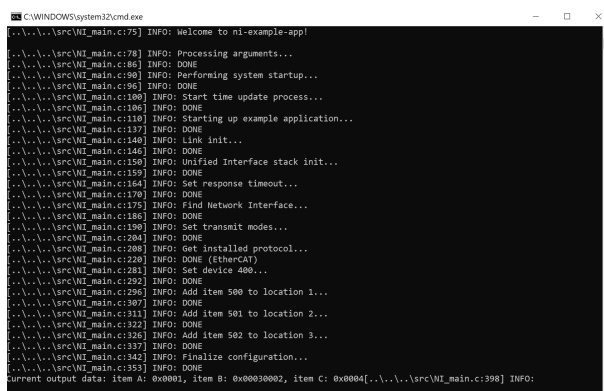

Figure 34. Verify Online Writes Successful in Network Interface Example Application Suite
8. The **Current Output Data** then updates in the Network Interface Example Application Suite (see Figure 34).